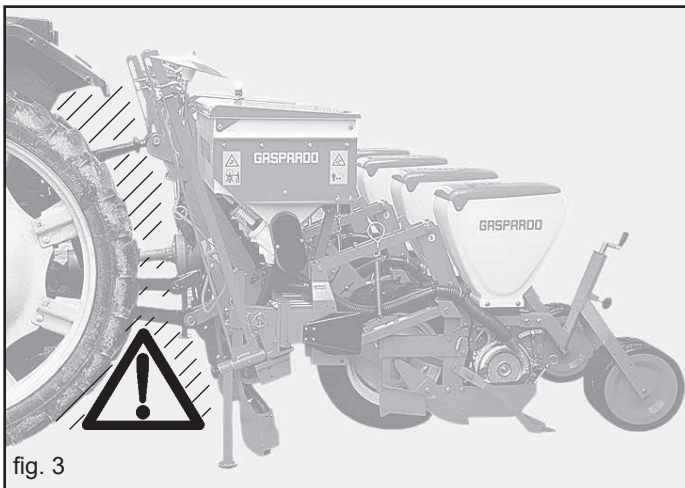

fig. 3
- 5) It is absolutely forbidden to stand between the tractor and linkage for manoeuvring the lifting controls from the outside (Fig. 3).
- 6) It is absolutely forbidden to stand in the space between the tractor and the equipment (Fig. 3) with the engine running. It is possible to work between the tractor and the equipment only after the parking brake has been applied and a suitably sized blocking wedge or stone has been placed under the wheels.